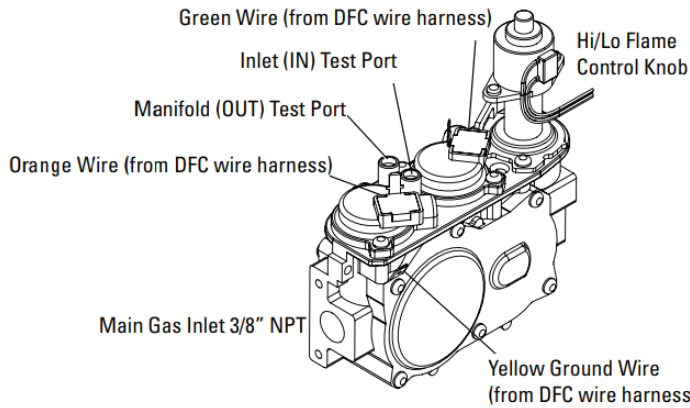

FIGURE 40
- 11) Plug the spade connectors into the module according to the below wiring diagram **(Figures 40 & 41)**, insert the pilot tubing into the right side of the valve and, using a wrench, tighten the nut so that the pilot tubing cannot be pulled out.